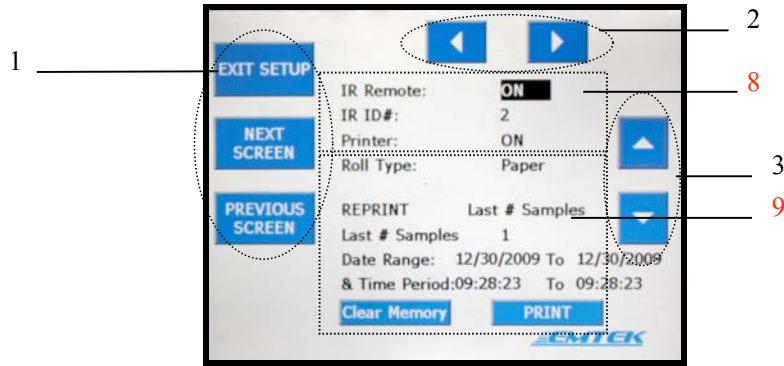

Fig 7.2.4 Screen 4
6. If using the Printer function, ensure that the printer is turned on (Fig 7.2.4, #8) and that the unit has an adequate supply of paper/labels (Section 7.5)